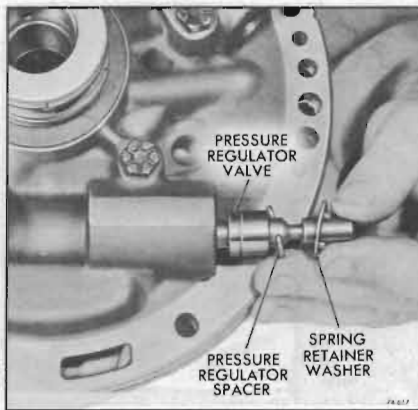

Figure 74-617
6. Remove the regulator valve, spring retainer and spacer(s), if present. See Figure 74-617.